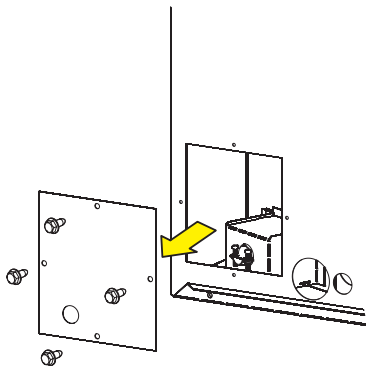

Figure 9
1. Remove the electrical access cover panel from the left end of the fireplace. See Figure 9.
6. Reinstall the electrical access panel with the screws removed in step 1. See Figure 9.